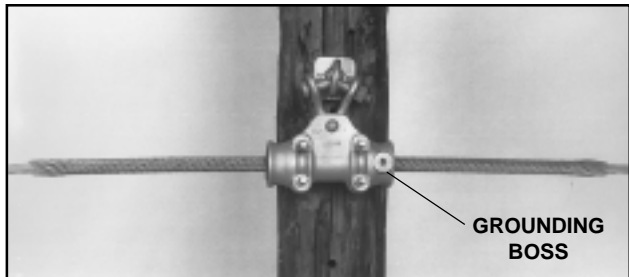
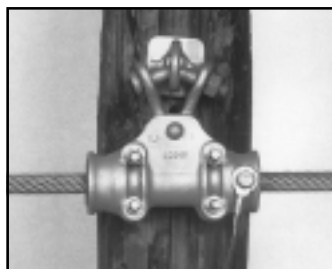

FIGURE 8A - COMPLETED APPLICATION
FIGURE 8B - INSTALL GROUNDING WIRE ASSEMBLY
3.04 Figure 8A shows the completed application of the FIBERLIGN® Cushion Clamp for OPGW. To install Grounding Wire Assembly (sold separately), attach to grounding boss with provided 1/2"-13 UNC x 3/4" bolt and lock washer. Tighten bolt until lock washer is flat. (Figure 8B)